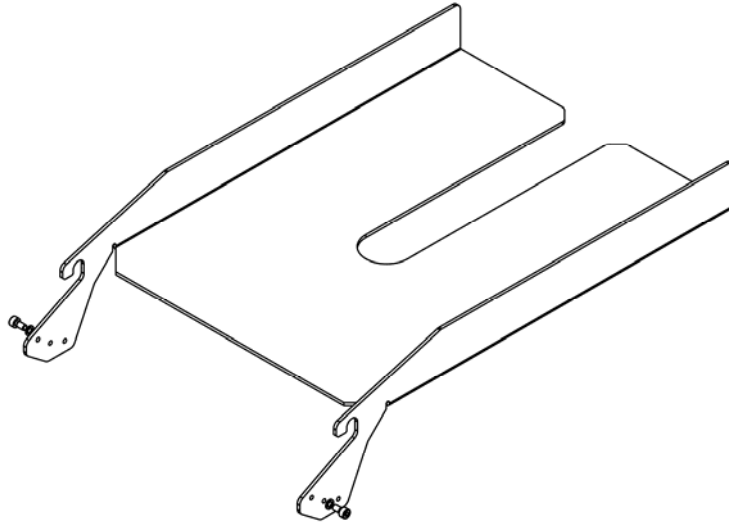

Figure 5: Shingle stacker
- Please insert the screws with the security disks as shown in Figure 5. Make sure to use the same hole on each side.